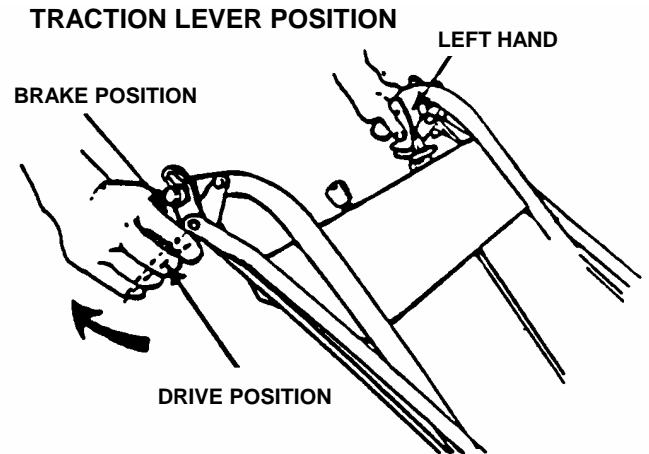

FIGURE 3.11
12. The machine is **TURNE**d by declutching wheel drive belts while engaging wheel brakes - turn left by squeezing the left hand traction lever or turn right by squeezing the right hand traction lever. See Figure 3.11 pistol grip. The more pressure applied while squeezing the traction lever, the sharper the mower will turn.